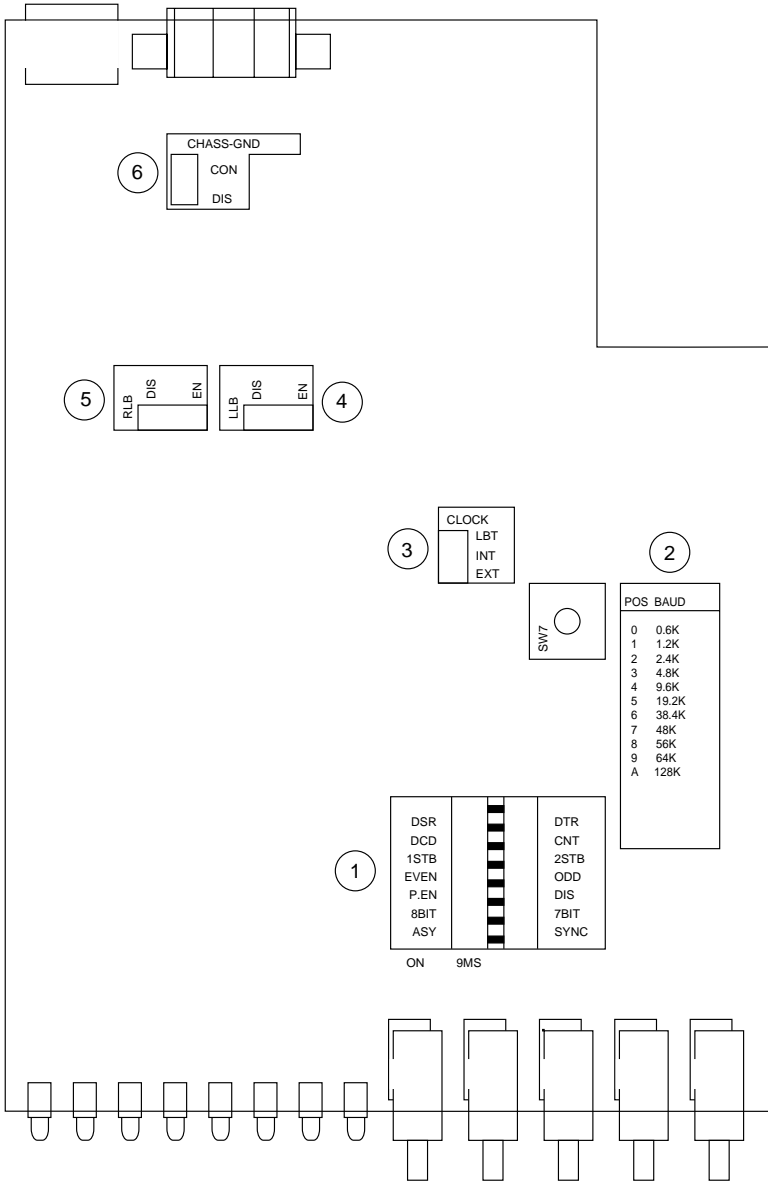

Figure 3-1. The A/S2W SHM's internal controls and indicators.
Refer to Figure 3-1 on the next page and Table 3-1 on the succeeding pages for the locations of the controls and their possible settings respectively.
4. Referring to Figure 3-1 on page 12 and Table 3-1 on pages 13 through 15, set the unit's internal controls to suit the new application.